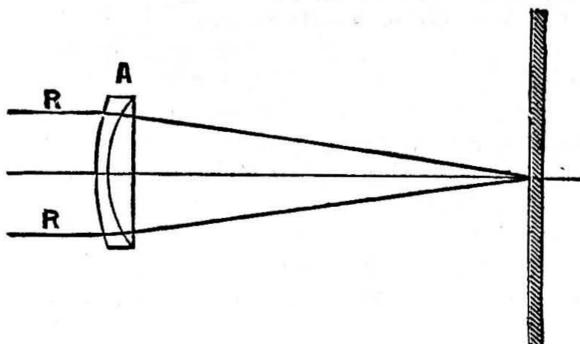
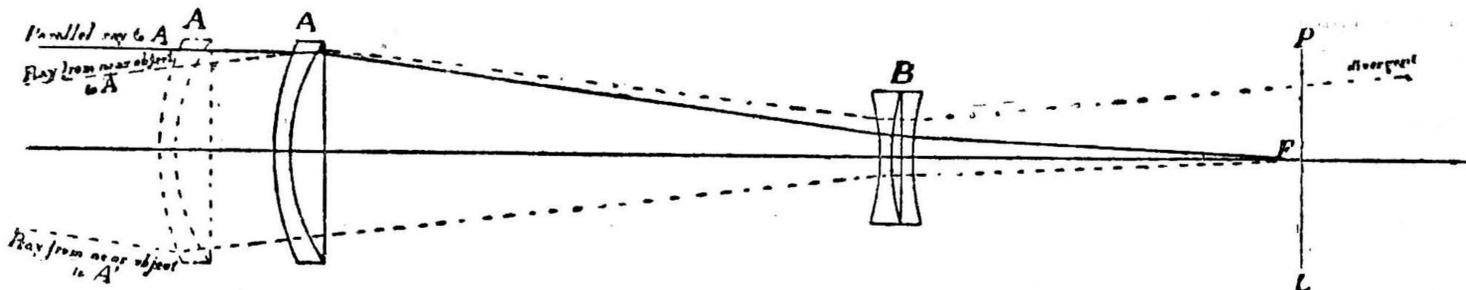
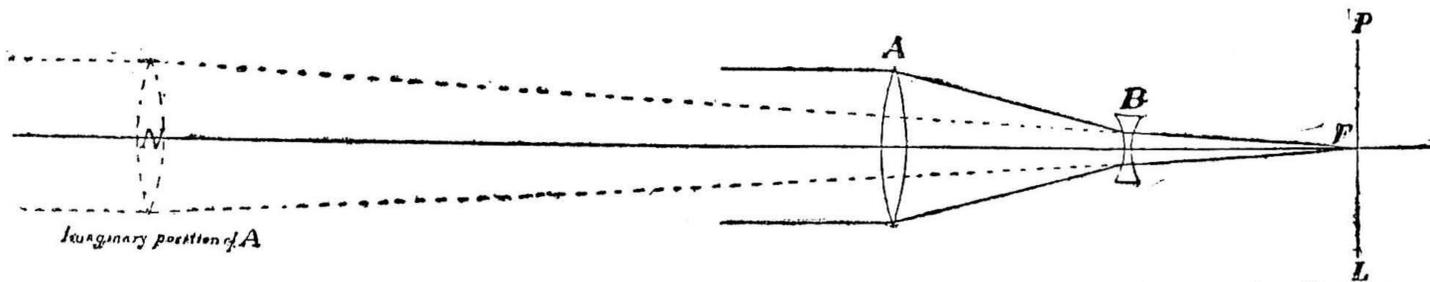

Fig. 1.—Formation of Image by an Ordinary Lens.
Fig. 2.—Diagram illustrating the Principles of the Tele-photographic Lens (compare Fig. 1).
Fig. 3.—Diagram showing Conditions rendering the Movement of the Screen necessary for focussing the Image formed by Tele-photographic Lenses.
Fig. 2.—Swedish Hand-loom—A B C D, Frame; a, Warp-beam; b, Cog-wheel of Warp-beam; c, Cloth-beam; d, Cog-wheel on Cloth-beam; e, Treadles; f, Bar; g, Grooved Wheel; h, Jacks; i, Fly.
(1) *The Reed* (Fig. 3).—This is made of steel or of wood, or of both. Generally it is a wooden frame, long and narrow, into which are fixed thin bars of steel. It fits, as we have said, into the fly, and through the interstices between its bars all the threads of the warp must pass. Therefore it is necessary, in ordering a loom, to order at the same time several sizes of reeds, for the meshes required will vary according to the material used.
Swedish Weaving. Fig. 3.—Reed. Fig. 4.—Shuttle and Bobbin. Fig. 5.—Bobbin Machine. Figs. 6 and 6A.—Different kinds of Tenters. Fig. 7.—Warp-lath. Fig. 8.—Heedle and Stock.
If we consider the diagrams given below, which represent a beam of rays being brought to a focus on a plate, first by means of an ordinary, and secondly by means of the new lens, it will be seen that the parallel rays (R, R, Fig. 1), for example, passing through the lens (A, Fig. 1) undergo refraction and become convergent, and upon the amount of this refraction depends the focal length of the lens, and consequently the size of the image. But in the case of the second diagram, which illustrates the principle of the tele-photographic lens, in which, between A and the plate,  $p$  l, there has been inserted a negative lens, B, the effect of which is to cause the rays which have passed through A to become less convergent, the result obtained, as far as the size of the image is concerned, is the same as would be got by the employment of an ordinary lens in the position shown by the dotted lines (Fig. 2).
To use the new lens, the camera is racked out until the focussing screen is in the position which it is thought best it should occupy, and the focussing is done by varying the distance between the positive and negative lenses. This is the method recommended by Mr. Dallmeyer himself, who has pointed out that under certain circumstances it becomes absolutely necessary; as, for instance, in the case shown diagrammatically below (Fig. 3). Here it is supposed the camera has been focussed for parallel rays; if then it is attempted to focus for a near object, as shown by the dotted line, it will be found impossible by any variation of the position of the focussing screen, since the rays will leave the negative lens diverging. By increasing the distance however, it will be seen that the near object can be focussed without any movement of the plate.
lens being to give the positive lens an imaginary position at a considerable distance outside the camera, as shown in Fig. 2, in estimating the rapidity the focal length must be measured from this imaginary position, and it is consequently advisable to employ as rapid a lens as possible for the front or positive part of the combination, or very long exposures will be necessary. It is found in practice that the front lens
Now, in the case of liquids containing solid matter which subsides on standing, the clear liquid may be syphoned from the vessel, thus avoiding filtration, except for the last small quantity. The syphon shown at Fig. 1 is a simple bent glass tube, one limb of which is longer than the other. The syphon is filled with water, and, keeping a finger on each end, inverted with the short limb in the liquid which it is intended to syphon away. A small piece of rubber tube and a pinch-cock placed upon the longer limb will be convenient for regulating the flow of the liquid.
The syphon seen at Fig. 2 can be readily made, and will be found very useful. It consists of a piece of glass tube,  $\frac{1}{2}$  in. in diameter, 4 in. long, one end being drawn to a point. In the other end two tubes, A and B, are placed, and sealed with cement, the
At Fig. 3 is seen the method of pouring a liquid on to a filter, or from one vessel to another, by means of a glass rod. The
Chemical Apparatus. Fig. 1.—Syphon. Fig. 2.—Syphon for Acids. Fig. 3.—Method of pouring Liquids. Fig. 4.—Glass Rods. Fig. 5.—Automatic Filtration and Washing Apparatus. Fig. 6.—Wash-bottle. Fig. 7.—Method of holding Test-tube. Figs. 8 and 9.—Test-tube Holders. Fig. 10.—Test-tube Stand. Fig. 11.—Test-tube Brush. Fig. 12.—Bulb-tube. Fig. 13.—Wire Candle-holders.
Hung Sashes altered to Pivot Lights. Fig. 1.—Sectional Plan. Fig. 2.—Part Elevation. Fig. 3.—Pivots. Fig. 4.—Fastener. Fig. 5.—Alternative to Fig. 1.